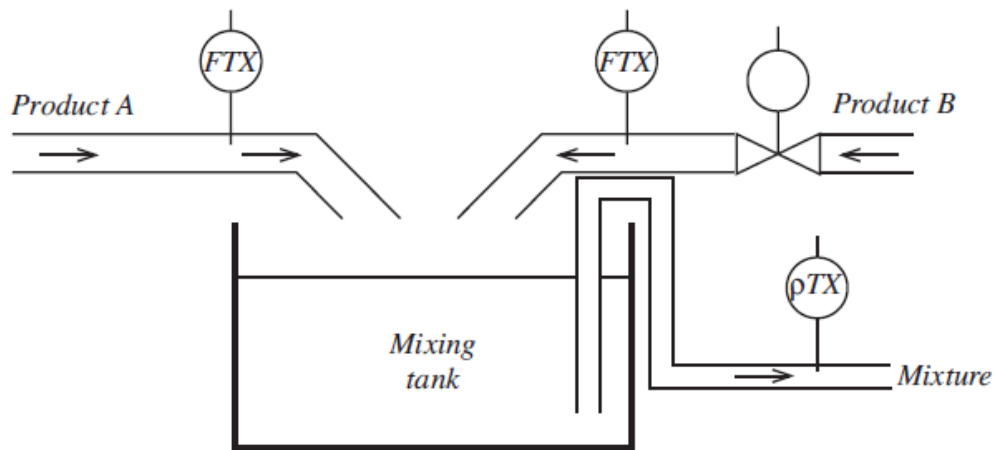

FIG. 4
6. The purpose of the arrangement shown in FIGURE 4 is to mix the two liquid products A and B in a fixed mass ratio. Product A, which is itself a mixture, is a 'wild' flow, whilst product B, a pure compound, is controlled. As the mixture leaves the tank the transmitter  $\rho TX$  measures its density.